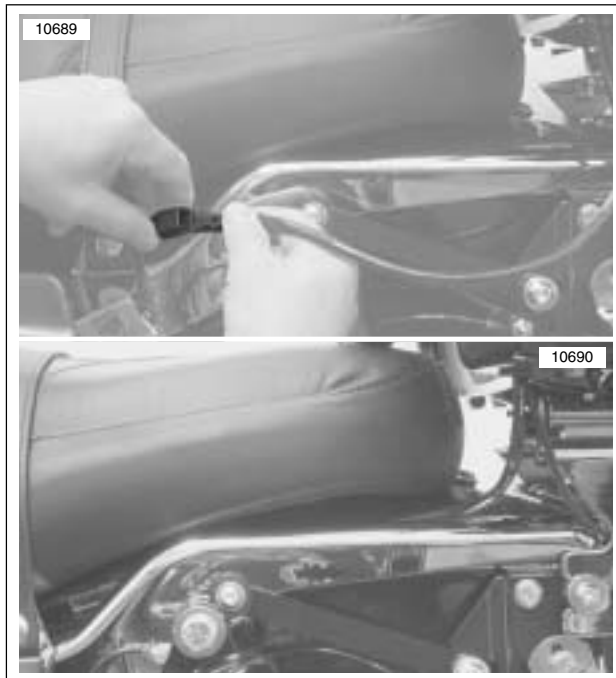

Figure 7-21. Connecting Tour-Pak Power Cable
12. See Figure 7-21. Plug Tour-Pak harness into power connector and tuck cable assembly between seat and fender strut cover.